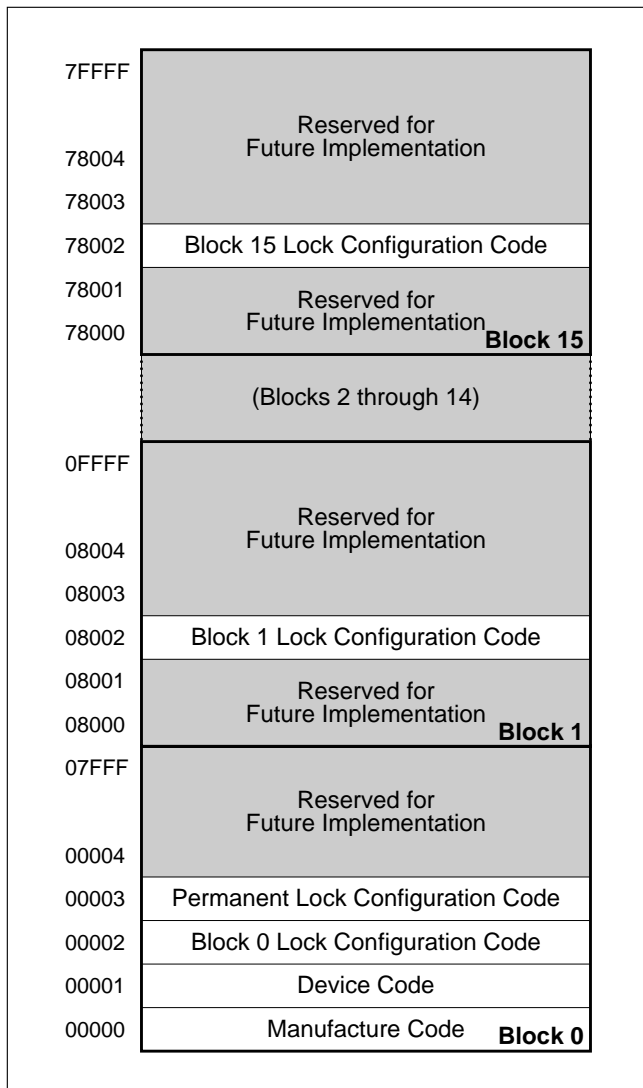

Fig. 2 Device Identifier Code Memory Map
The read identifier codes operation outputs the manufacture code, device code, block lock configuration codes for each block, and the permanent lock configuration code (see **Fig. 2**). Using the manufacture and device codes, the system CPU can automatically match the device with its proper algorithms. The block lock and permanent lock configuration codes identify locked and unlocked blocks and permanent lock-bit setting.
IA = Identifier code address : see **Fig. 2**.
The identifier code operation is initiated by writing the Read Identifier Codes command. Following the command write, read cycles from addresses shown in **Fig. 2** retrieve the manufacture, device, block lock configuration and permanent lock configuration codes (see **Table 4** for identifier code values). To terminate the operation, write another valid command. Like the Read Array command, the Read Identifier Codes command functions independently of the V_{PP} voltage and RP# can be V_{IH} or V_{HH}. Following the Read Identifier Codes command, the following information can be read :
1. X selects the specific block lock configuration code to be read. See **Fig. 2** for the device identifier code memory map.